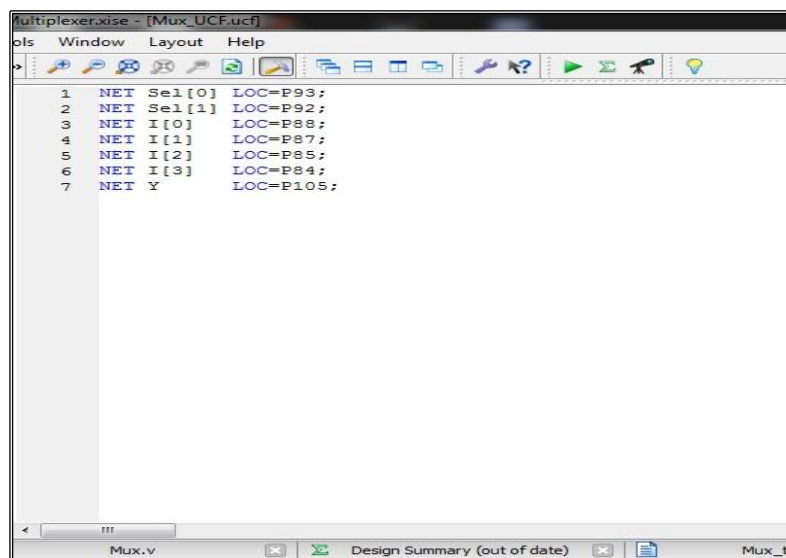

Fig 2.23: UCF Declaration
23. A blank window will appear in a new tab having the design's name as "Mux_UCF.ucf". Enter the constraints for each input and output port (Fig2.23).